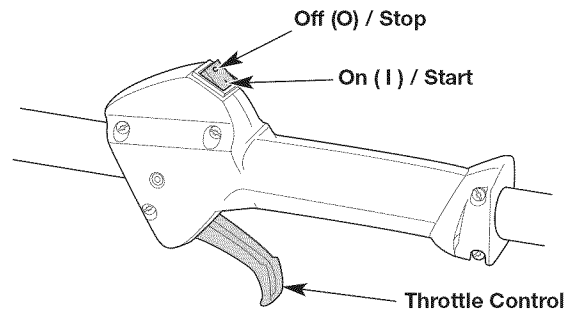
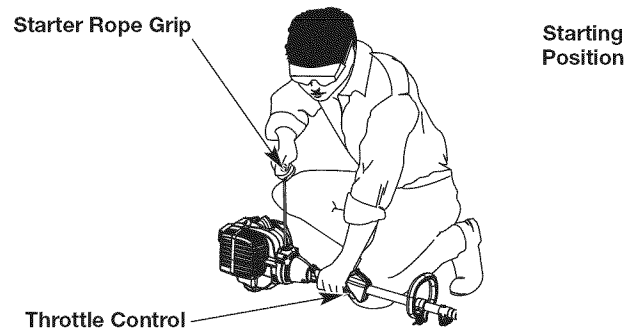

Fig. 6
Fig. 8
WARNING: Avoid accidentally starting the unit. To avoid serious injury, the operator and the unit must be in a stable position when pulling the starter rope (Fig. 8).
NOTE: There is no need to turn the unit on. The On/Off switch is in the ON (I) position at all times (Fig. 6).
4. Crouch in the starting position (Fig. 8).
5. Squeeze and hold the throttle control (Fig. 6). Pull the starter rope with a controlled and steady motion until the unit starts (Fig. 8).
2. Press and hold the On/Off switch in the OFF (O) position until the engine comes to a complete stop (Fig. 6).
6. Squeeze and hold the throttle control (Fig. 6). Run the Speed Start™ accessory in intervals no longer than 2 seconds each until the unit starts.